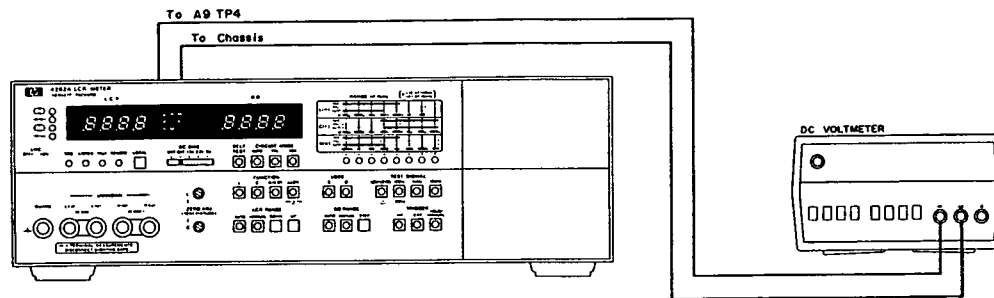

Figure 5-1. Power Supply Voltage Adjustment.
- a. Connect DC voltmeter plus input to test point A9TP4 (+12V) and minus input to 4262A chassis with dual banana plug to alligator clip cable. See Figure 5-1.